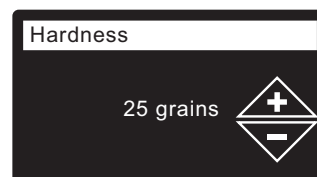

FIG. 27
13. **HARDNESS** Press the UP (▲) or DOWN (▼) buttons to set the value of your water's hardness (See Figure 27).